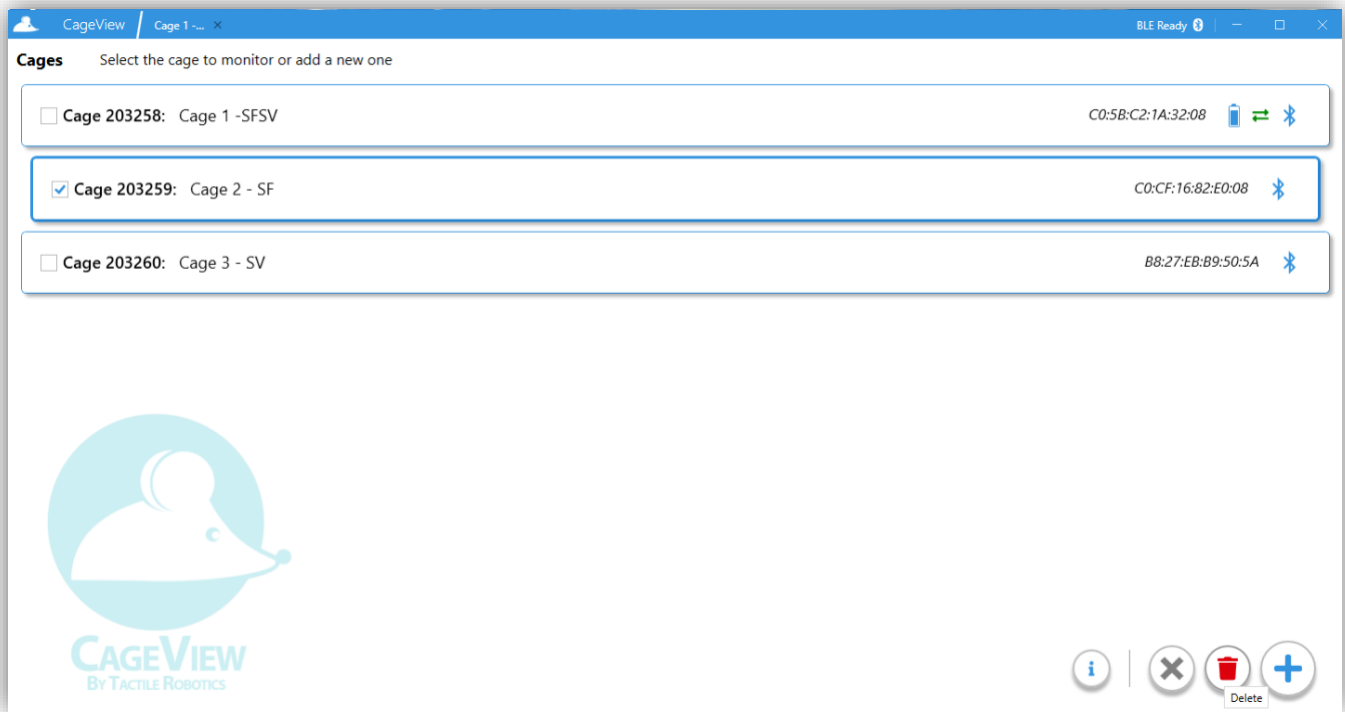

Figure 30. Editing mode - CageView selected
5.3.9. As shown in **Figure 30**, the CageView items in the list will become selectable in the editing mode and clicking on each CageView will select that item instead of opening it. The selected CageViews are indicated and presented differently.